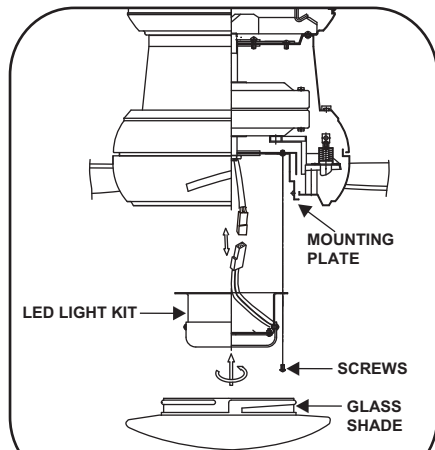

Fig. 8
3. Place the key holes in the LED light kit over the two mounting screws previously loosened from the mounting plate. Turn the LED light kit until the LED light kit locks in place at the narrow section of the key holes. Secure by tightening the two screws previously loosened and the one previously removed. (Fig. 8)
4. Raise the glass shade (or metal light cover) up against the mounting plate and secure it to the fan by turning the glass shade clockwise until snug. **DO NOT OVERTIGHTEN.** (Fig. 8)